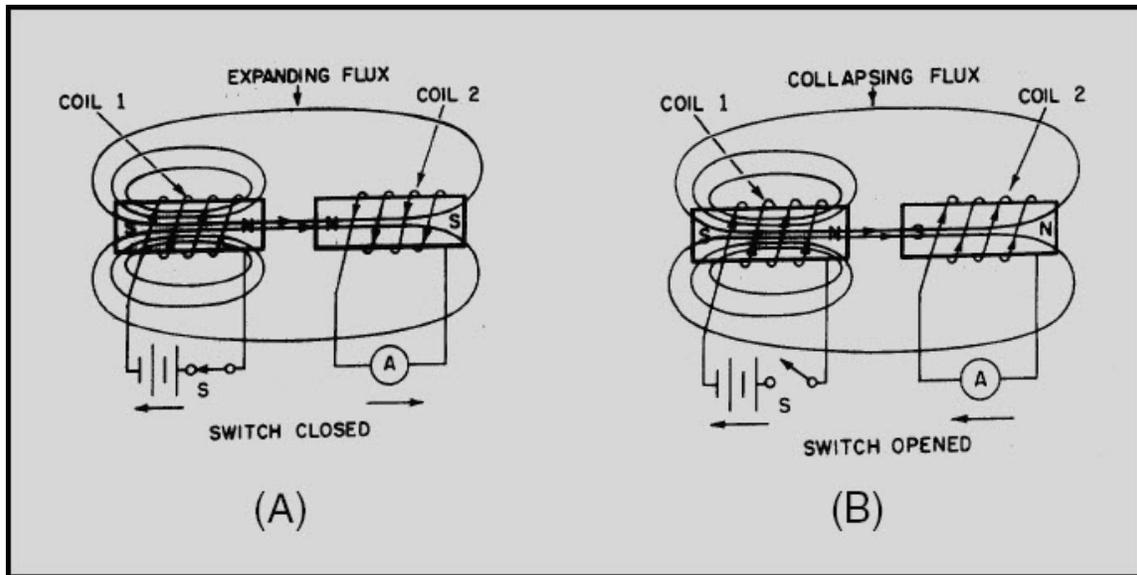

Figure 2-13 Mutual inductance
Two coils are placed close together as shown in figure 2-13. Coil 1 is connected to a battery through switch S, and coil 2 is connected to an ammeter (A). When switch S is closed as in figure 2-13(A), the current that flows in coil 1 sets up a magnetic field that links with coil 2, causing an induced voltage in coil 2 and a momentary deflection of the ammeter. When the current in coil 1 reaches a steady value, the ammeter returns to zero. If switch S is now opened as in figure 2-13(B), the ammeter (A) deflects momentarily in the opposite direction, indicating a momentary flow of current in the opposite direction in coil 2. This current in coil 2 is produced by the collapsing magnetic field of coil 1.